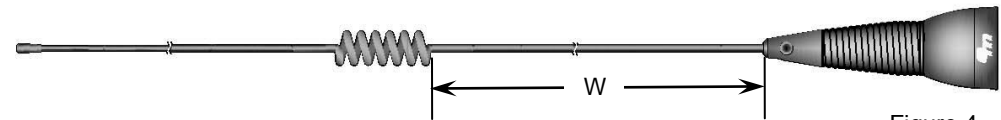

Figure 4
- 2. **NOTE:** Ensure the whip is located and completely seated inside the antenna whip adapter. The Tuned Length "W" is determined by measuring the distance between the top of the antenna adapter-spring and the bottom of the antenna phasing coil as shown in **Figure 4**. With the whip removed from the adapter, the cut length dimension will be approximately 1" (25mm) longer than the Tuned Length "W".
- 5. Cut the antenna whip as required to establish the specified Tuned Length "W" as shown in Figure 4. Imperial and Metric Length units are given for convenience.